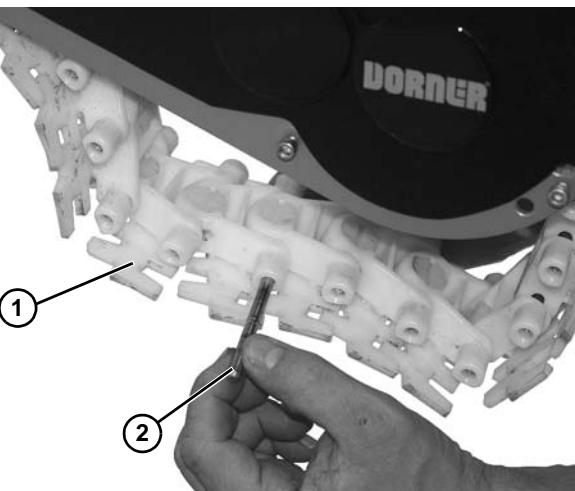

Figure 13
- a. Install belt around drive end of conveyor and bring the ends of the belt (Figure 13, item 1) together.
- b. Insert rod (Figure 13, item 2).